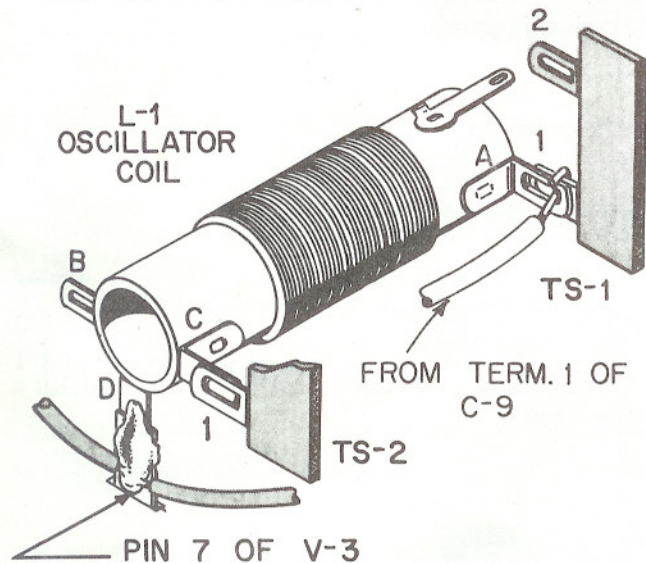

FIGURE 7. MOUNTING THE OSCILLATOR COIL
- With your pliers, bend the coil terminals as shown in Figure 7.